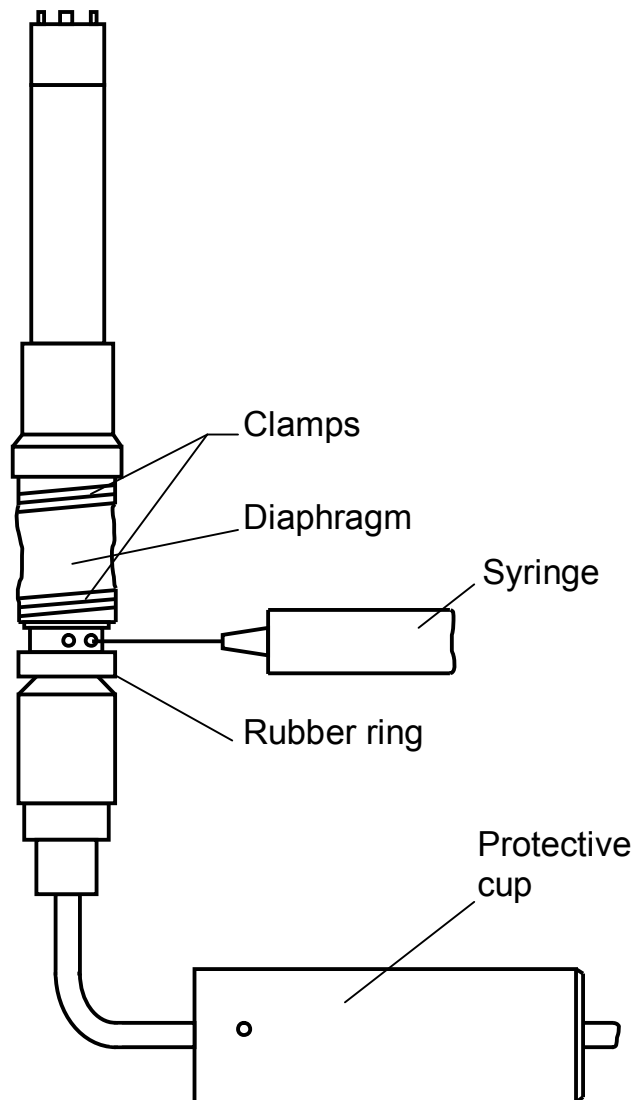

Fig. 2.6 – Replacement of electrolyte
- loosen the protective cup as shown in Fig. 2.6;